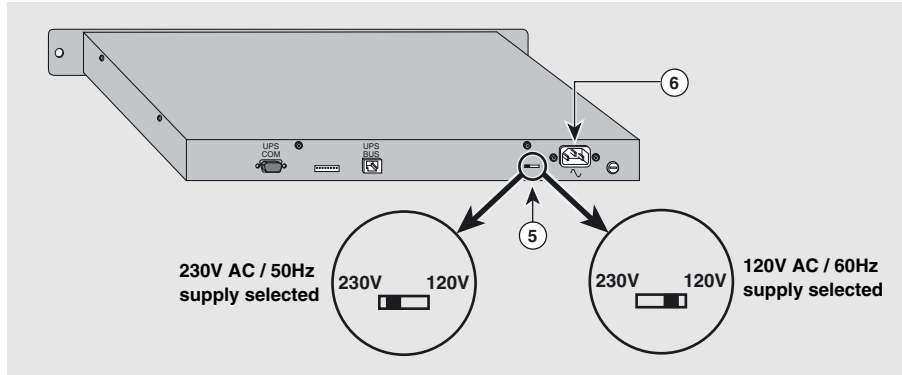

Fig. 3
Set the appropriate voltage (230V or 120V) using the selector **⑤** (see figure 3). A 500 mA 250V delayed fuse protects the module against electrical faults.
- ▶ check the position of the input voltage selector (see figure 3),